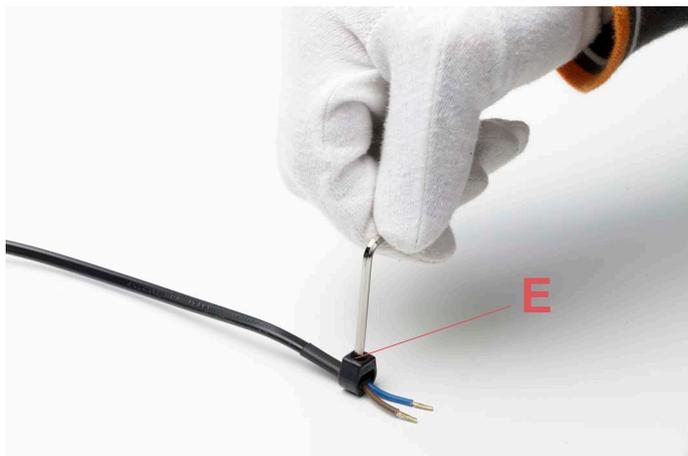

Fig.11
Insert the cable clamp (E) and fasten the locking screw.(Fig.11 page 28)